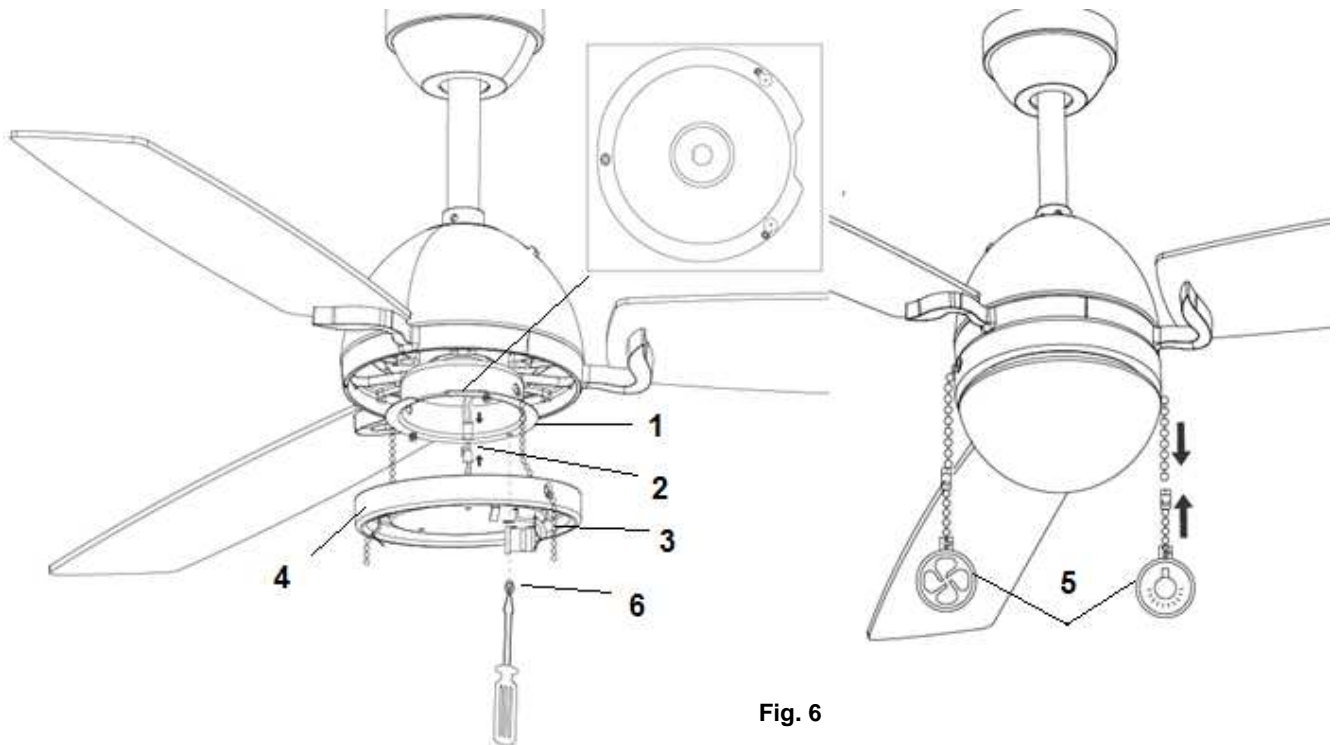

Fig. 6
1. Remove the 3 light kit screws (6, Fig.6) from light base.
2. Insert the pull chain (3, Fig.6) through the holes of light kit (4, Fig.6).
3. Connect the fan and light pendant (5) to pull chain.
4. Connect the quick connector (2, Fig.6), and then push them into the switch housing (1, Fig.6).